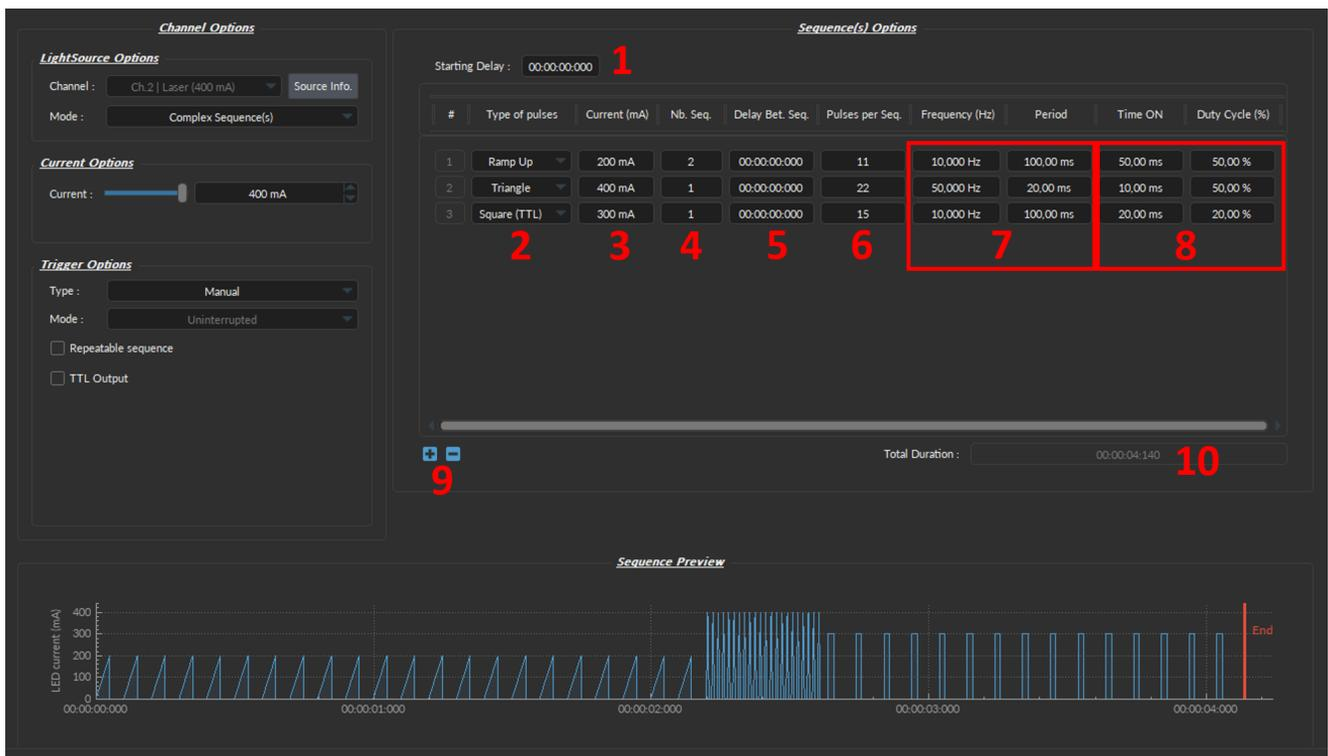

Figure 4.18: Complex Sequences Window
1. The **Starting Delay** (Fig. 4.18) sets the delay (in hh:mm:ss:zzz format) before the first pulse sequence.
2. The **Types of pulses** (Fig. 4.18) sets the pulse type. Pulses can be **Square**, triangular (**Triangle**), **Ramp up Ramp down** or **Delay**. The **Delay** pulse type is used to create a delay between different sequences.
3. The **Max Current** (Fig. 4.18) sets the maximum current (in mA) for the given sequence.
4. The **Number of sequences** (Fig. 4.18) sets the number of times that the sequence will be repeated, with a minimum of 1.
5. The **Delay between sequences** (Fig. 4.18) sets the delay (in hh:mm:ss:zzz format) between each sequence if the **Number of Sequences** is greater than 1.
6. The **Pulses per sequence** (Fig. 4.18) sets the number of pulses per sequence, with a minimum of 1.
7. The **Frequency/Period** (Fig. 4.18) sets the frequency (in Hz) or period (in ms) for the pulse sequence. These two values are linked, and when one is changed the other will adjust automatically. For example, a signal at 10 Hz (frequency) will output one pulse every 100 ms (period), whereas a pulse sequence at 0.5 Hz (frequency) will output one pulse every 2000 ms (period).
8. The **Time ON/Duty Cycle** (Fig. 4.18) sets the time (in ms) or the duty cycle (in %) for each pulse. These two values are linked, and when one is changed the other will adjust automatically. The **Time ON** must be lower than  $(1/\text{frequency})+0.005$  ms, while the **Duty cycle** must be below 100 %.
9. The **Sequence controls** (Fig. 4.18) allow the addition (+) or removal (-) of sequences to the spreadsheet.
10. The **Total Duration** (Fig. 4.18) displays the total time of the experiment. The different values can be *Inf* for infinite, a valid time value or *Err* if the **Time ON** value is greater than  $1/\text{frequency}$ .